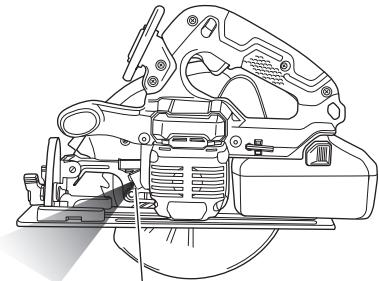

Fig. 25
9. How to use the LED light (Fig. 25)